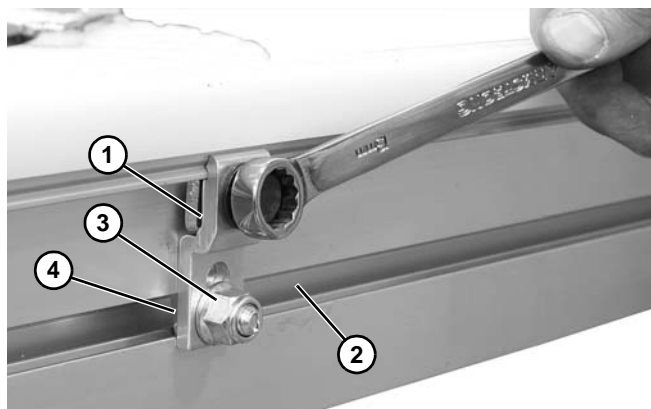

Figure 85
- Install clip assembly (**Figure 85, item 1**) into side rail channel (**Figure 85, item 2**). The end clips should be no greater than 12" from the end of the conveyor.
*Make sure that the studs (**Figure 85, item 4**) rotate inside the channel and engage with the conveyor.*
- Fasten clip (**Figure 85, item 1**) to conveyor with nut (**Figure 85, item 3**) on stud.